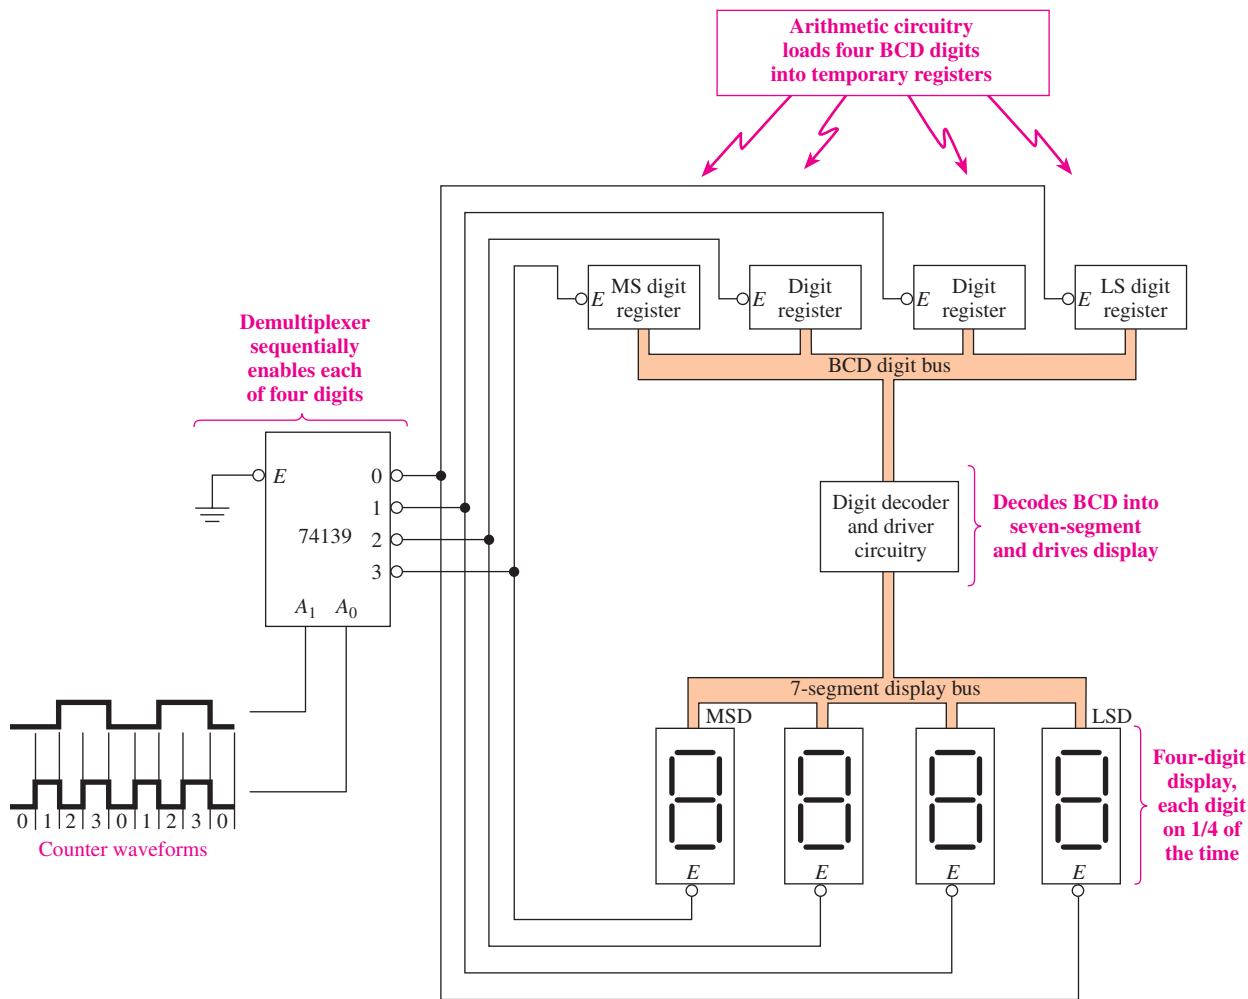

Figure 8-62 Multiplexed four-digit display block diagram.
- 8-27. Describe the circuit operation required to display the number 5 in the MSD position of the display in Figure 8-62.